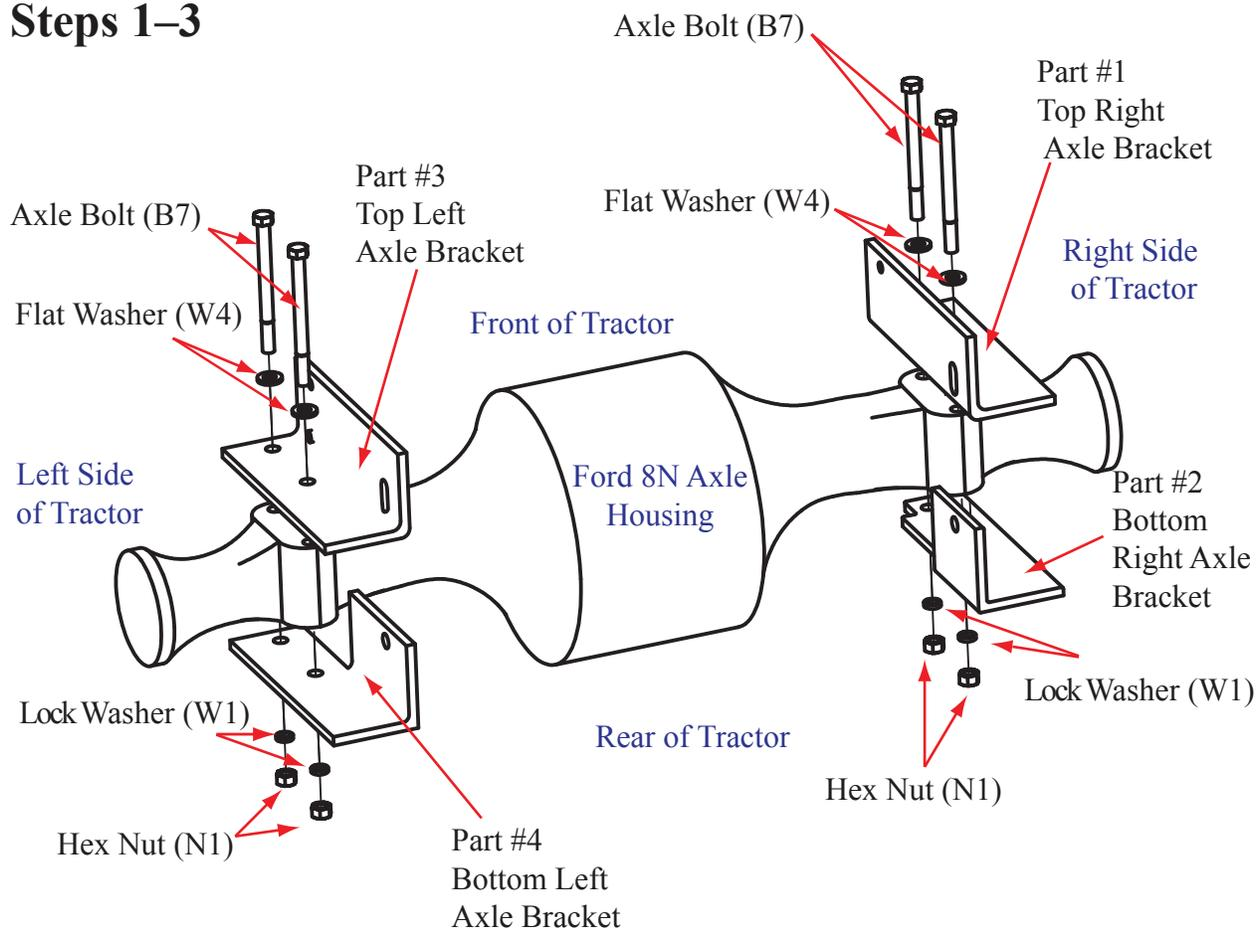

Figure 1
**Step 1.** Read the “special notes” section on page 5. Place the top right axle bracket (#1) on top of the right axle. Place the fender (not shown) on top of the axle bracket (#1). Align the holes in the fender base and axle bracket with the two holes of the tractor axle. Slide a flat washer (W4) onto two bolts (B7). Insert axle bolts (B7) down through the fender base and axle bracket holes and then through the holes of the tractor axle. (Figure 1)
**Step 2.** Align and install the bottom right axle bracket (#2) to the bottom of the tractor axle using the two-hole bolt pattern of the axle bracket and the two bolts inserted in step 1. If needed for a draw bar link, install a bottom right lower link support bracket to axle bolts (B7) and the bottom surface of axle bracket (#2) (not shown). Install lock washers (W1) and nuts (N1) to axle bolts (B7). Tighten bolts and nuts until axle brackets are “snug tight” to axle. (Figure1)